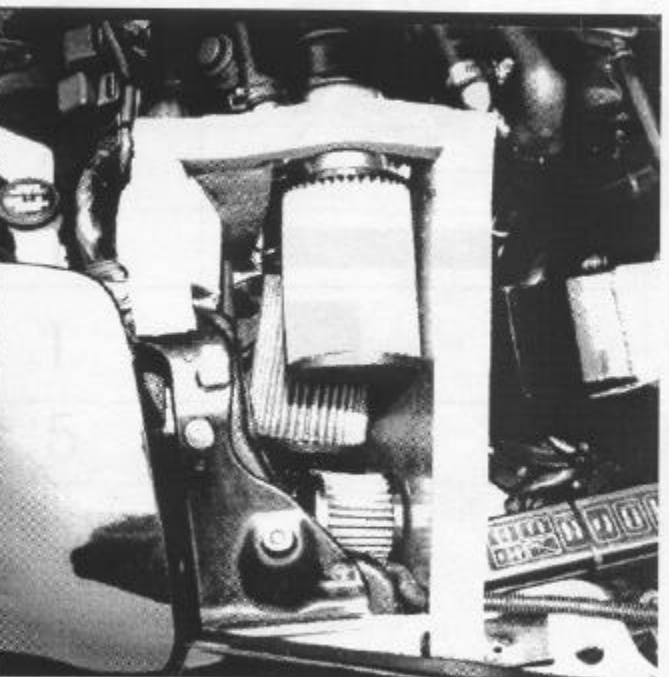

Figure 4
10. Install dual TKT element assembly as shown in (Figure 4) tighten lower clamp first, then position the assembly so the top element angles slightly downward and tighten top clamp. (Figure A at bottom of page shows proper filter to manifold orientation).
11. Next remove tape protection and carefully press foam in place (Figure 4)